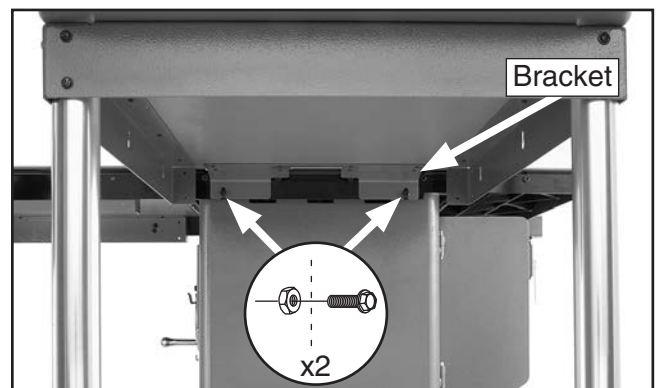

Figure 36. Outfeed table fastened to rear rail.
- Place the extension table assembly upright with the feet on the ground, align the slots in the extension table bracket with the rear rail mounting holes, then fasten the table to the rail with (2) M8-1.25 x 16 flange bolts and M8-1.25 hex nuts, as shown in **Figure 36**.